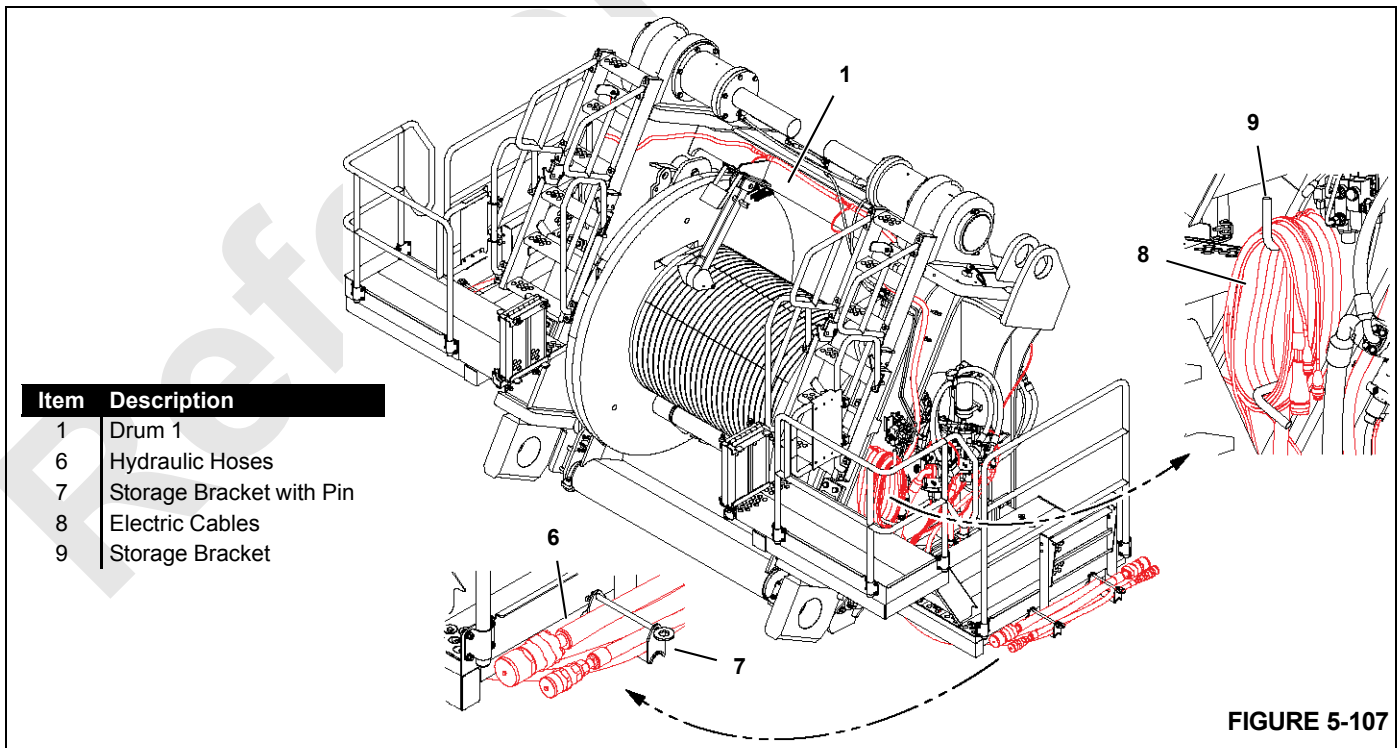

FIGURE 5-107
6. Lift drum (1) away from drums (2 and 3).
7. Disconnect two hydraulic hoses (1g, View E) from (3) to hydraulic couplers (1h) on drum (1).
8. Store drum (1) platforms as instructed on page 5-187.
9. Store the hydraulic hoses and electric cables on drum (1) as shown in Figure 5-107.
10. Lift drum (1) onto a trailer for shipping.